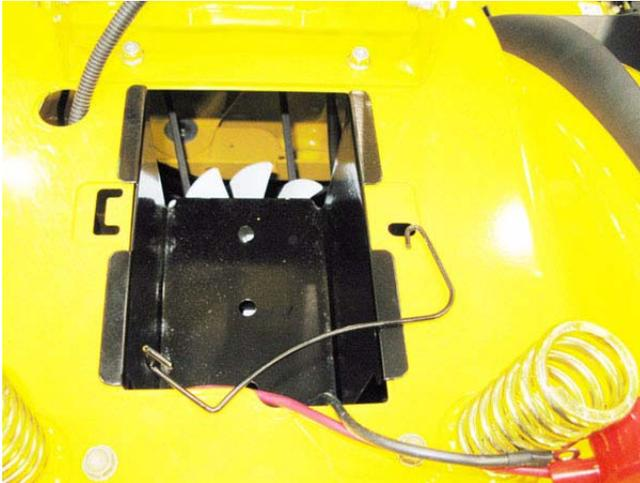

Figure 5.70
3. Remove the battery and battery tray, as described in the body work chapter of this manual. See Figure 5.70.